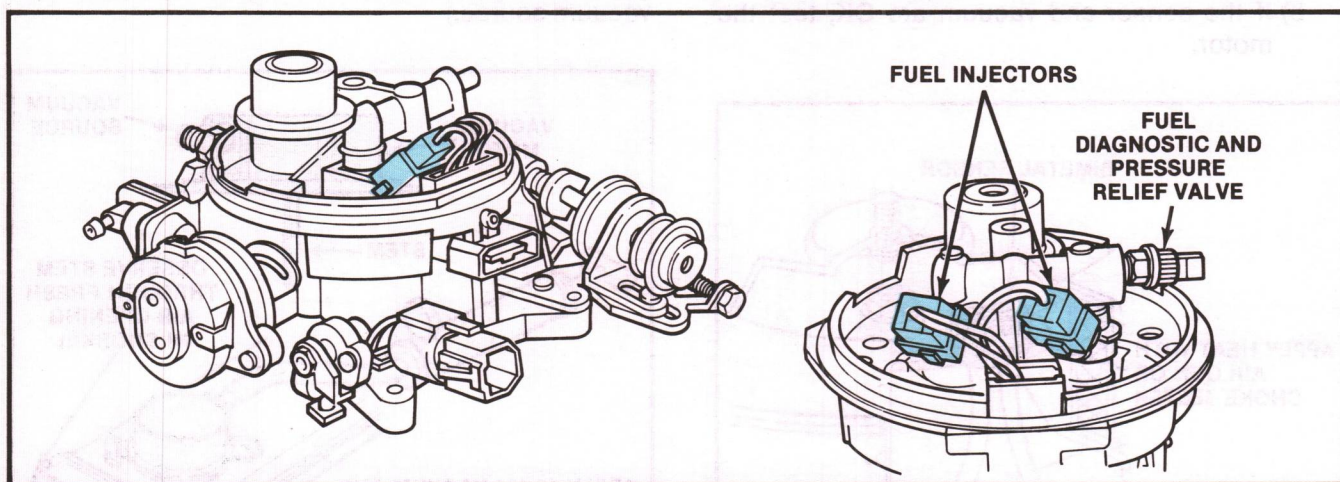
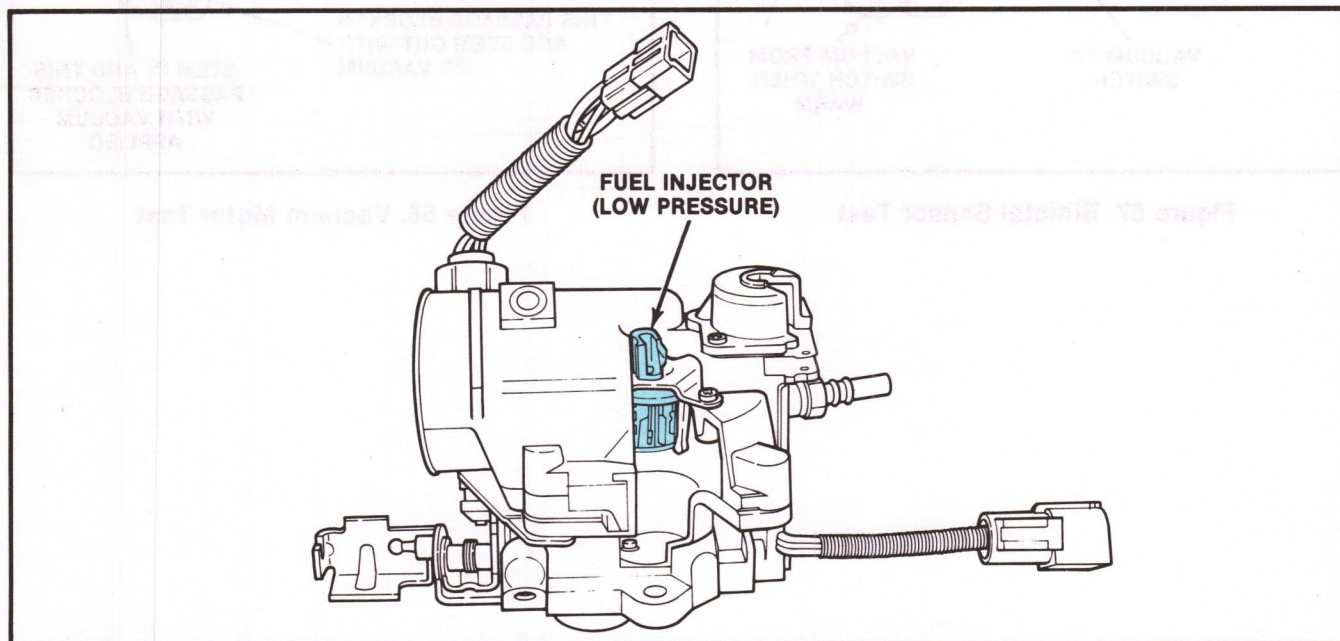

Figure 59. Typical High-Pressure CFI Fuel Charging Assembly
Figure 60. Typical Low-Pressure CFI Fuel Charging Assembly
The CFI systems include a high-pressure system and a low-pressure system. In the high-pressure system, fuel is metered by two fuel injectors mounted on a fuel charging assembly that resembles a carburetor (Fig. 59). The low-pressure system uses one fuel injector mounted inside a fuel charging assembly (Fig. 60).
3. Connect the Pressure Gauge Tool T80L-9974-A (or equivalent) to the fuel diagnostic valve (or Schrader valve) on the fuel rail or throttle body (Figs. 59 and 65). A few models do not have diagnostic valves. Refer to the Shop Manual.